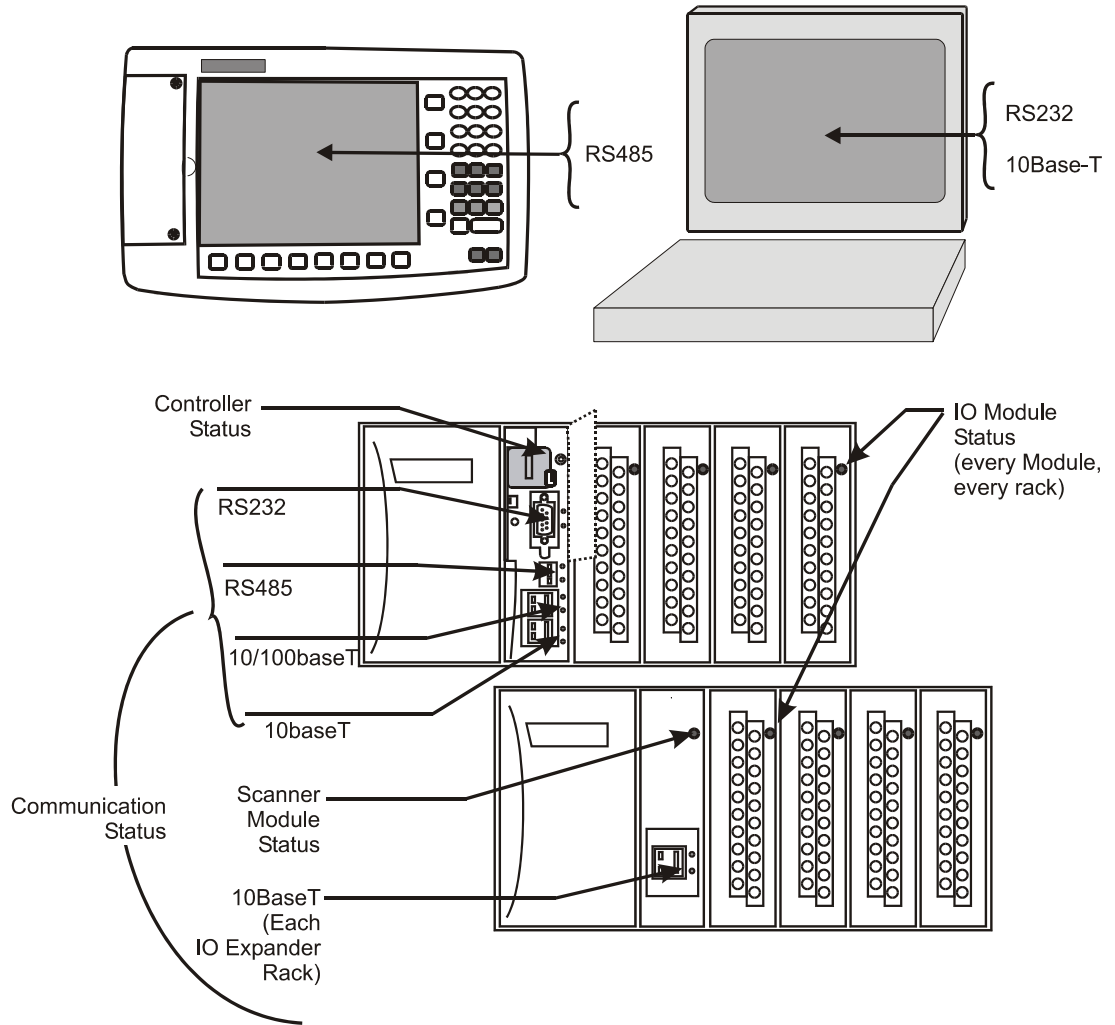

Figure 55 - LED Indicators
- Light Emitting Diodes (LEDs) included in controller hardware. Locations of LEDs are shown in Figure 55; descriptions are given in Table 23 , Table 24, Table 25, and Table 26.